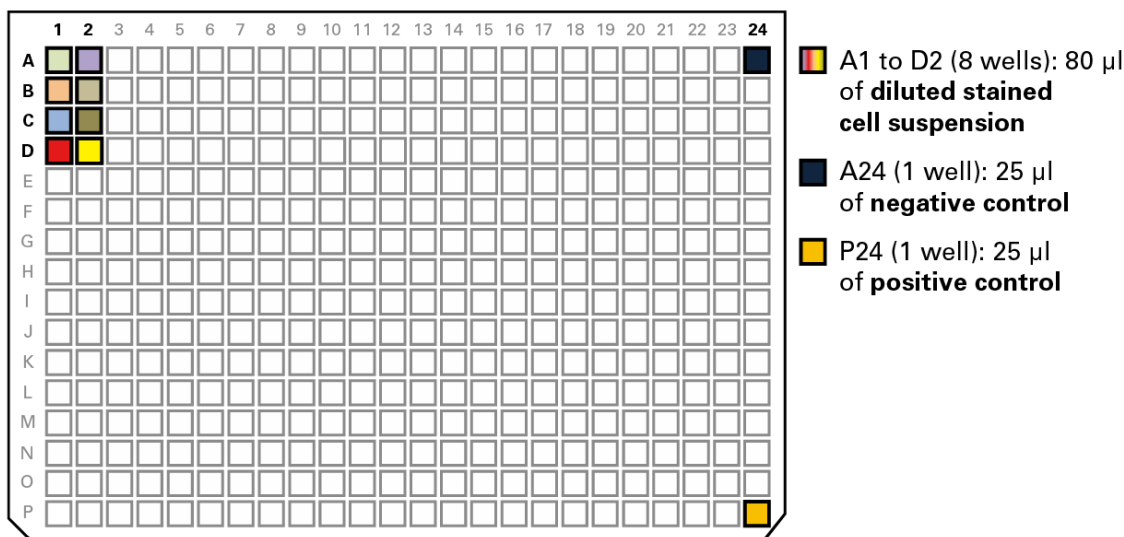

Figure 6. Setting up the 384-Well Source Plate for dispensing cell samples and controls.
[‡]The 1,000 µl total volume of diluted stained cell suspension is sufficient for distributing 80 µl of cell suspension in each of eight source wells (see Figure 6, below).
7. Add positive control and negative control to the 384-Well Source Plate as indicated in the following steps and in Figure 6 (below):
9. Using a 200 μ l pipette tip, slowly and carefully load 80 μ l of cell suspension into wells A1, A2, B1, B2, C1, C2, D1, and D2 of a 384-Well Source Plate as indicated in Figure 6 (below).